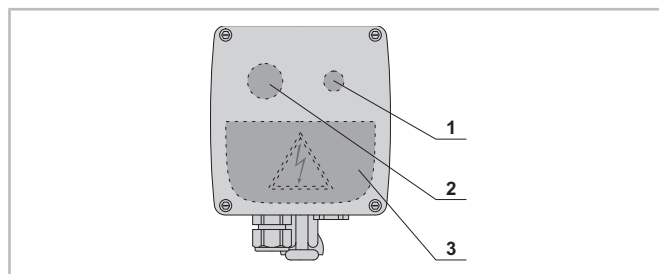

Fig. 6: Oil heater for OA4188(A)-EX..OA25112(A)-EX, the dark-grey parts are located underneath the cover
- Press the button (see figure 6, page 19, position 1).
- Adjust the set point at the setting wheel to 60°C (or at least to a value 20 K above the maximum ambient temperature). see figure 6, page 19, position 2.